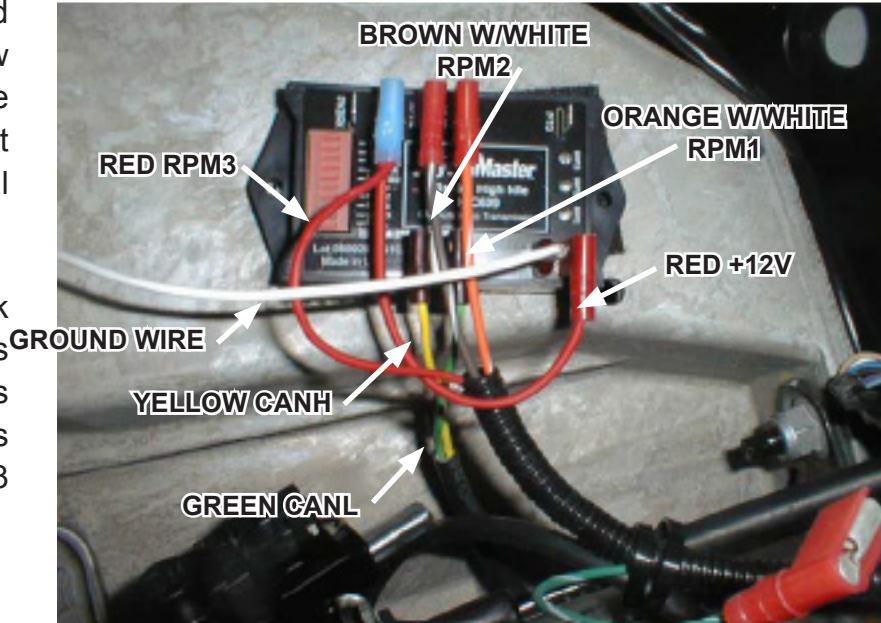
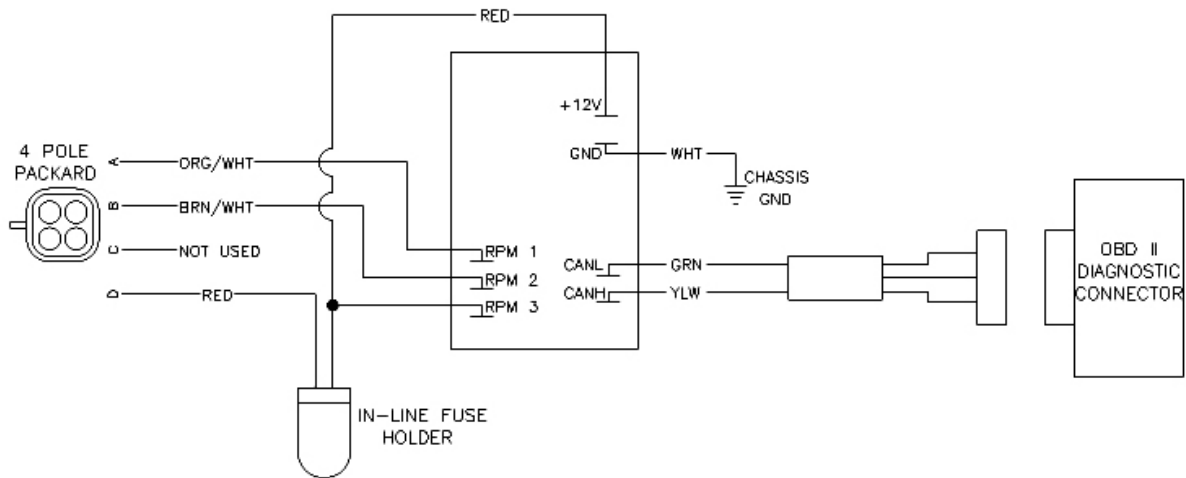

Figure 23. Mount New Throttle Control Module under Dash
Figure 24. Wiring Diagram for GM 3 Speed Throttle Control
1. Using the provided Velcro, mount the new Throttle Control module under the dash just above the gas pedal (see Figure 23).
2. Connect the Data Link Cable (DLC) harness and the provided wires to the controller as follows (see Figure 23 and Figure 24).